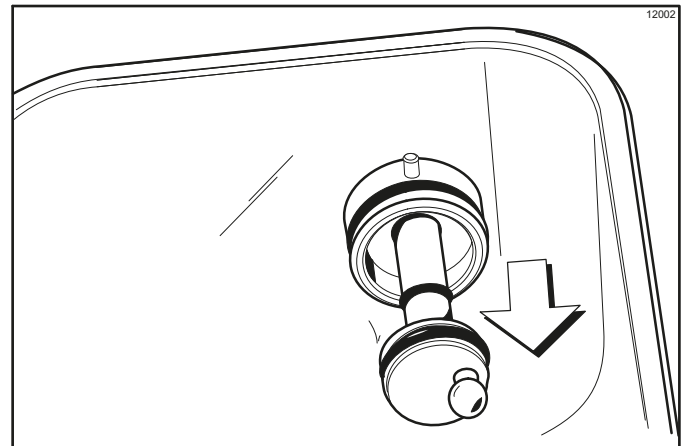

Figure 6-56
- Remove the pump driveshafts from the drive hubs in the rear wall of the mix hoppers. (See Figure 6-56.)